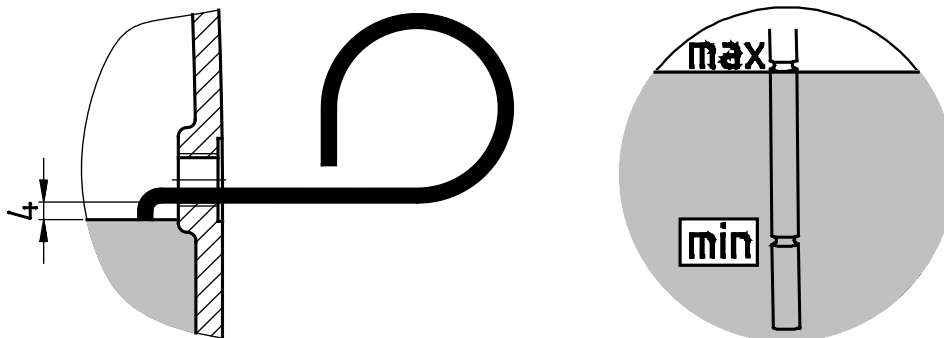

Fig. 18: Checking the oil level with a dipstick
- Check the oil level in the gear unit with the dipstick supplied (Part No.: 283 0050), as shown in Fig. 18. To do this, the part of the dipstick which is submerged in the oil must be held vertically.